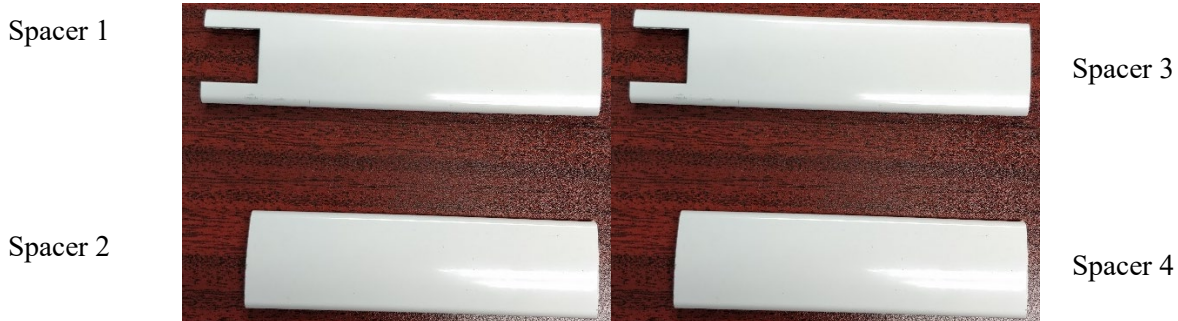

Figure 14 Spacer cuts required for even picket spacing
14. In order to get equal picket spacing at each end, cut 4 spacers according to Figure 14. Finding equal spacing may take some trial and error of sliding the spacers and then measuring. Spacer 1 and 3 will be on the top and bottom rail at Side 1, and Spacer 2 and 4 will be on the top and bottom rail at side 2 (from Figure 4b).